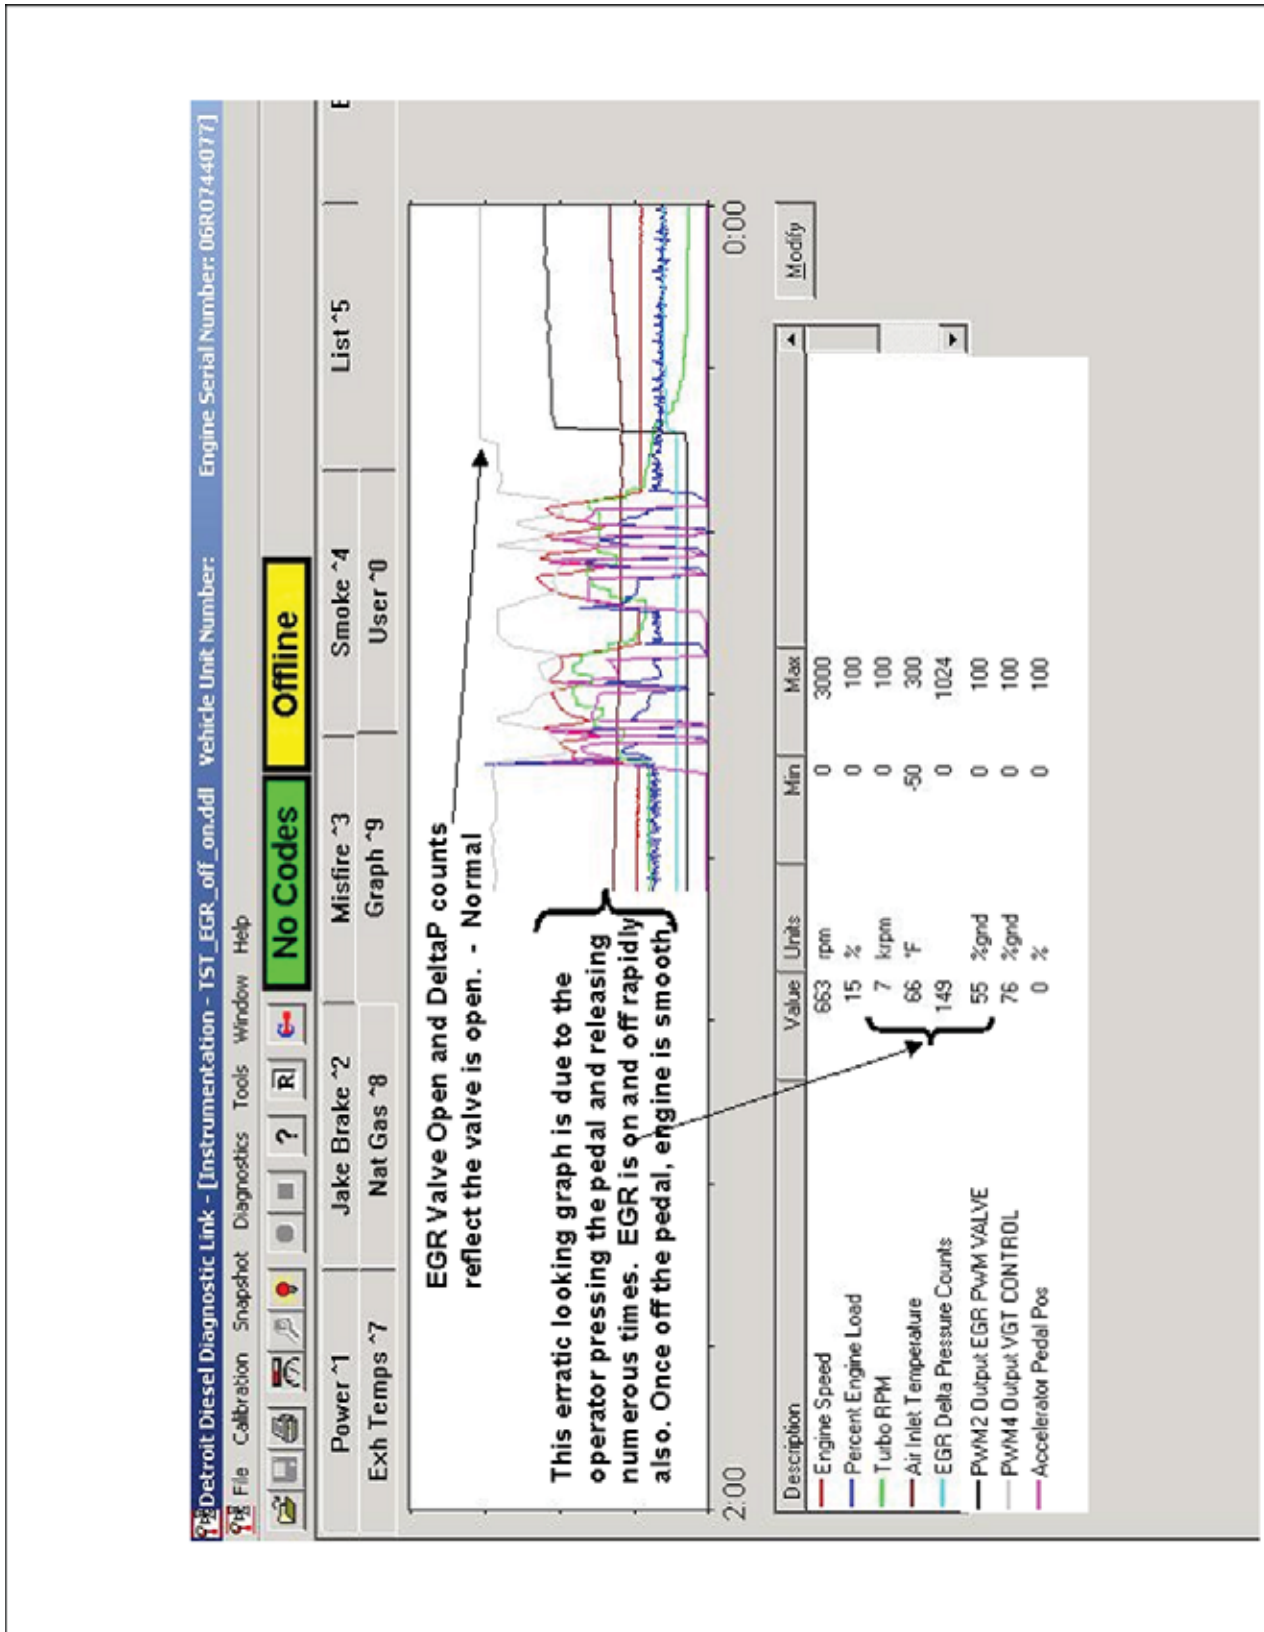

Figure 7-3 Throttling Without Load — EGR is On and Off
- Throttling without load, EGR is on and off. See Figure 7-3.